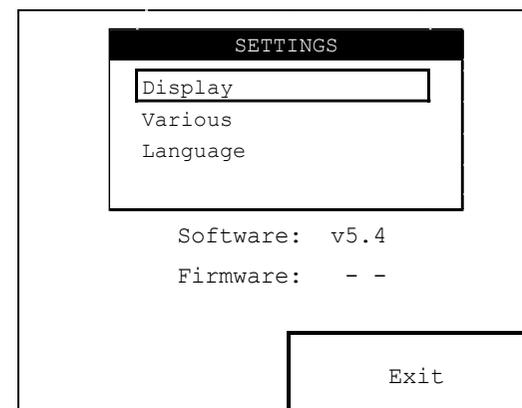

Fig.5
1. push the function taste relative to the SETTINGS button in correspondence of the screen of fig. 3 ; it appears the main screen of the SETTINGS button ( see fig. 5)
1. Rotate the encoder knob in correspondence of the main screen of the SETTINGS button until to position the cursor on the DISPLAY menu ( see fig. 5 )
1. Rotate the encoder knob in correspondence of the main screen of the SETTINGS button until to position the cursor on the VARIOUS menu (see fig 5)
1. Rotate the encoder knob in correspondence of the main screen of the SETTINGS button until to position the cursor on the LANGUAGE menu ( see fig. 5 )